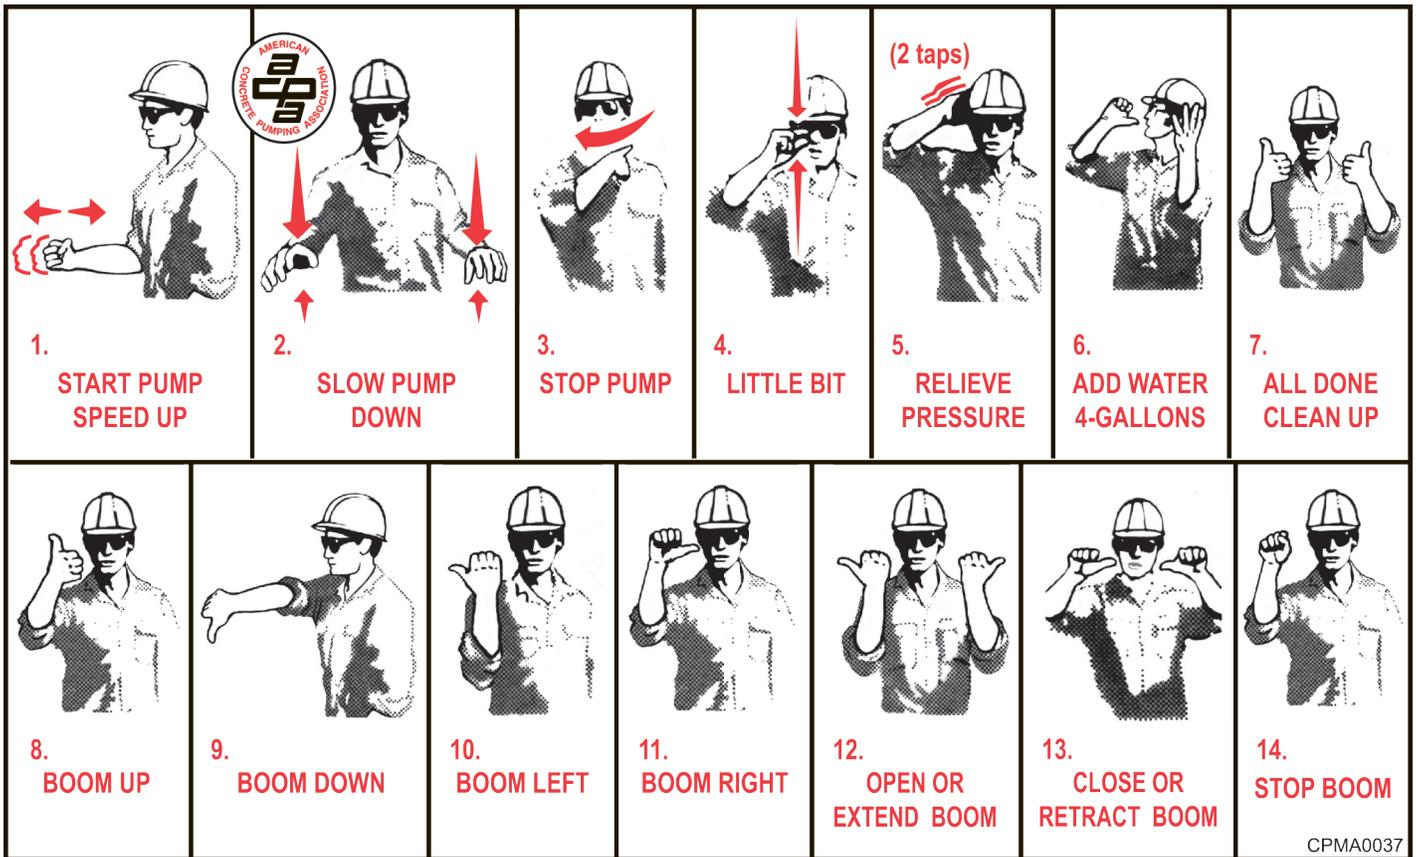

Fig. 1.1—Concrete pump operation hand signals. (Figure courtesy of American Concrete Pumping Association.)
- Make sure the person guiding a pump operator knows and uses the standard hand signals developed by the American Concrete Pumping Association (Fig. 1.1).